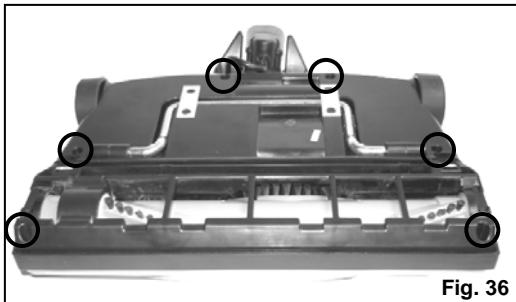

Fig. 36
4. Turn the power nozzle upside down and using a #1 Phillips screw driver, remove the six (6) screws from the bottom plate. (Fig. 36)